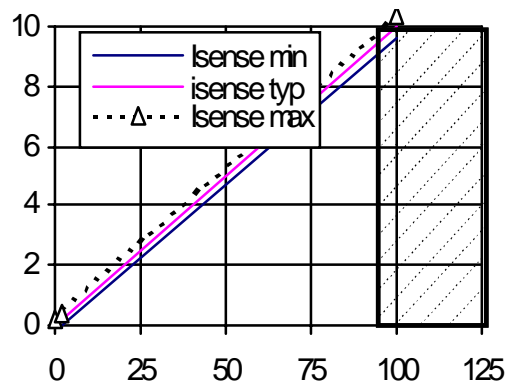

Figure 10 - I sense (mA) vs I load (A)
- Choose R_{st} to get I_{sd} by mean of fig. 10 curve or using the following formula